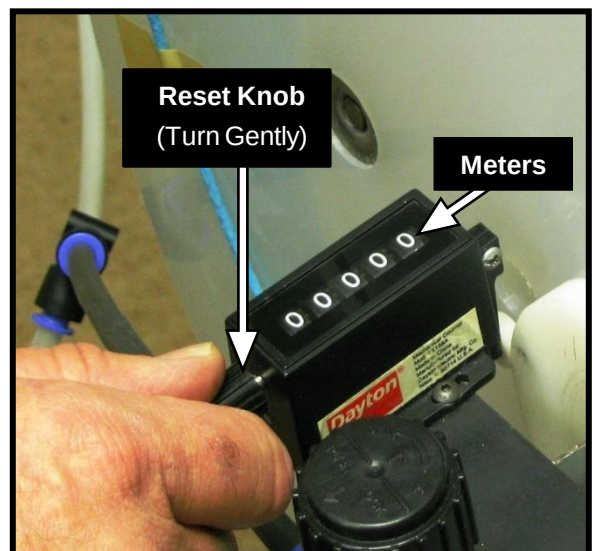

Figure 3
6.5 Verify Payoff Counter is set to zero reading by turning Reset Knob. **See Fig 3.**